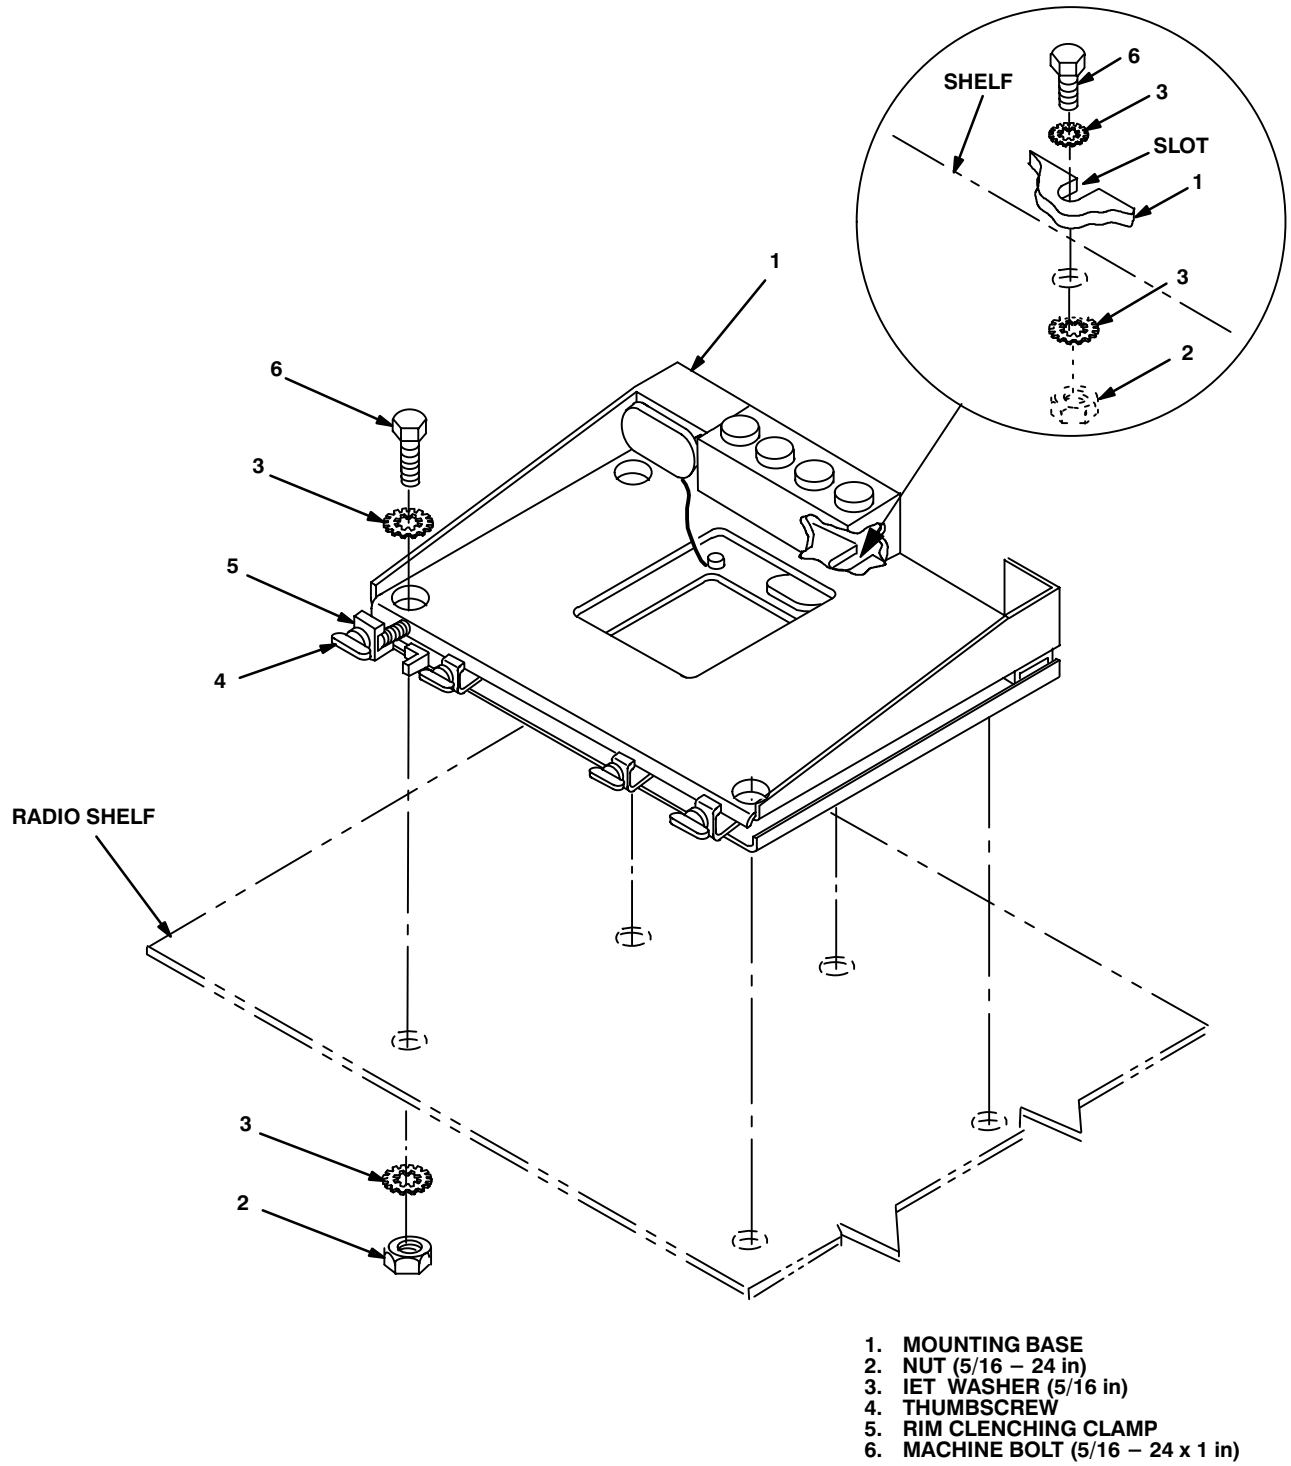

Figure 5-4. Mounting Base Installation
5.2 Installation of Mounting Base, Electrical Equipment MT-6352/VRC (mounting base). Continued. Remove and retain attaching bag of 5/16 in mounting hardware for installation. To insure good electrical grounding, any rust, corrosion or paint around mounting holes in radio shelf should be removed before installing the mounting base. See figure 5-4 and perform the following steps.